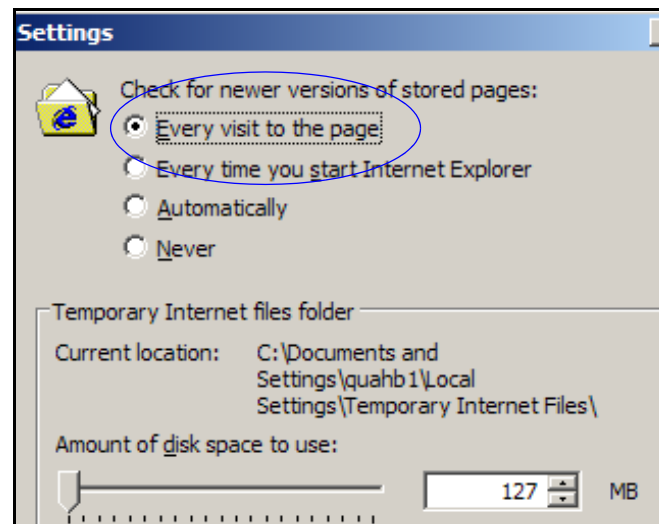

FIG. 11 Internet Page Settings
2. Click **Settings**. Select **Every visit to the page**. Click **OK**. See FIG. 11.